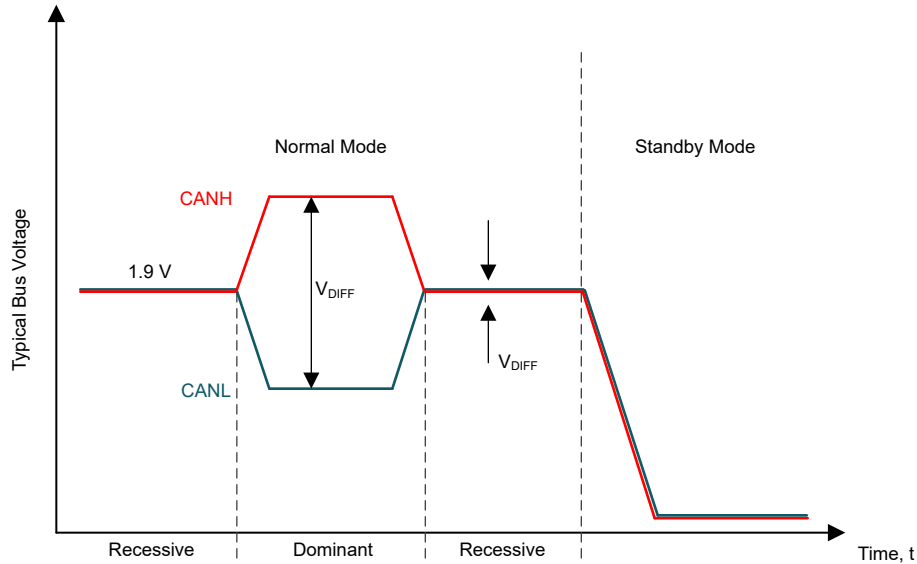
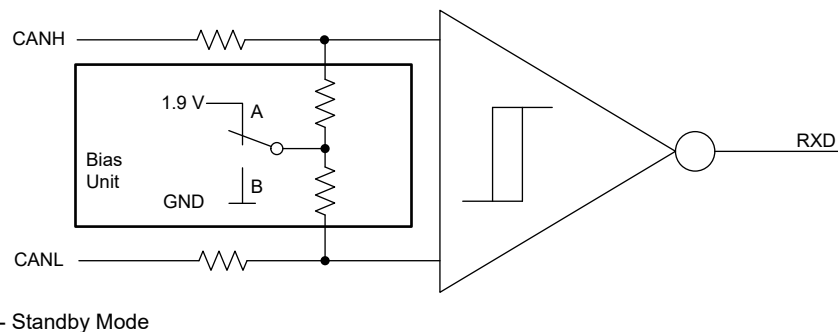
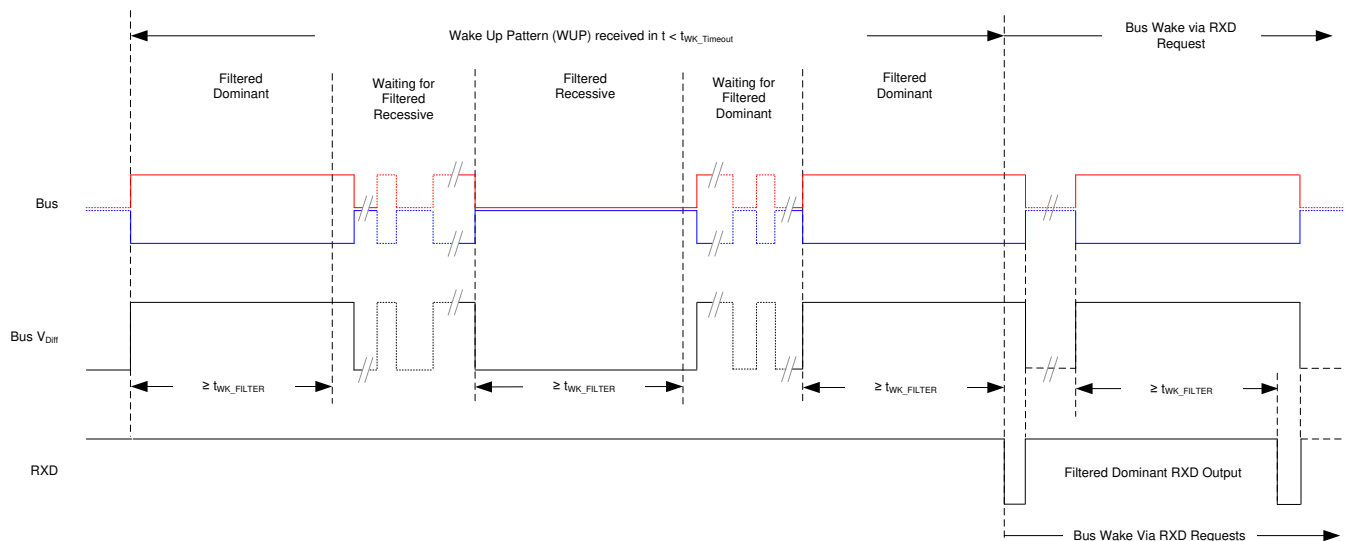

Figure 8-2. Bus States
Figure 8-3. Simplified Recessive Common Mode Bias Unit and Receiver
Figure 8-5. Wake-Up Pattern (WUP) with $t_{WK_TIMEOUT}$
The CAN bus has two logical states during operation: recessive and dominant. See Figure 8-2 and Figure 8-3.
The TCAN340x-Q1 transceivers implement a low-power standby (STB) mode which enables a third bus state where the bus pins are weakly biased to ground via the high resistance internal resistors of the receiver. See Figure 8-2 and Figure 8-3.
This is the low-power mode of the TCAN340x-Q1. The CAN driver and main receiver are switched off and bi-directional CAN communication is not possible. The low-power receiver and bus monitor circuits are enabled to allow for RXD wake-up requests via the CAN bus. A wake-up request is output to RXD as shown in Figure 8-5. The local CAN protocol controller should monitor RXD for transitions (high-to-low) and reactivate the device to normal mode by pulling the STB pin low. The CAN bus pins are weakly pulled to GND in this mode; see Figure 8-2 and Figure 8-3.
$t_{WK_FILTER(MIN)}$ are never detected as part of a WUP and thus no wake request is generated. Bus state times between $t_{WK_FILTER(MIN)}$ and $t_{WK_FILTER(MAX)}$ may be detected as part of a WUP and a wake-up request may be generated. Bus state times greater than $t_{WK_FILTER(MAX)}$ are always detected as part of a WUP; therefore, a wake request is always generated. See Figure 8-5 for the timing diagram of the wake-up pattern.
For an additional layer of robustness and to prevent false wake-ups, the device implements a wake-up timeout feature. For a remote wake-up event to successfully occur, the entire WUP must be received within the timeout value $t \leq t_{WK_TIMEOUT}$. If not, the internal logic is reset and the transceiver remains in the current state without waking up. The full pattern must then be transmitted again, conforming to the constraints mentioned in this section. See Figure 8-5 for the timing diagram of the wake-up pattern with wake timeout feature.
(1) X = irrelevant
(2) For bus state and bias see Figure 8-2 and Figure 8-3